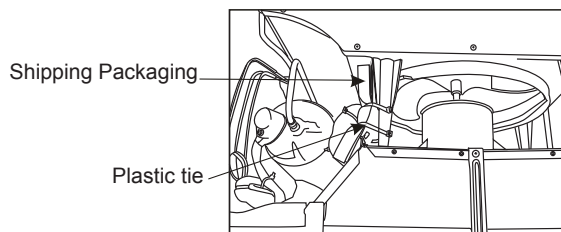

Fig.7
10. Your unit may come with internal packaging. This packaging must be removed prior to installing the air conditioner back into the cabinet.(see Fig .7).